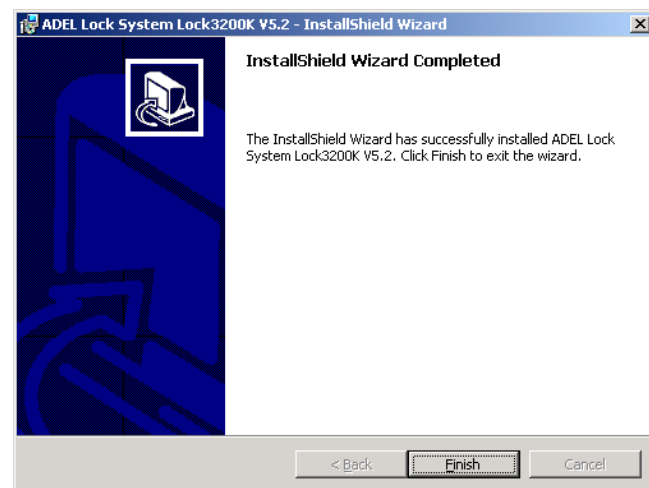

Figure 1-18
- 13) Setup begins to copy files to your computer. Figure 1-18 is shown after completing copying.